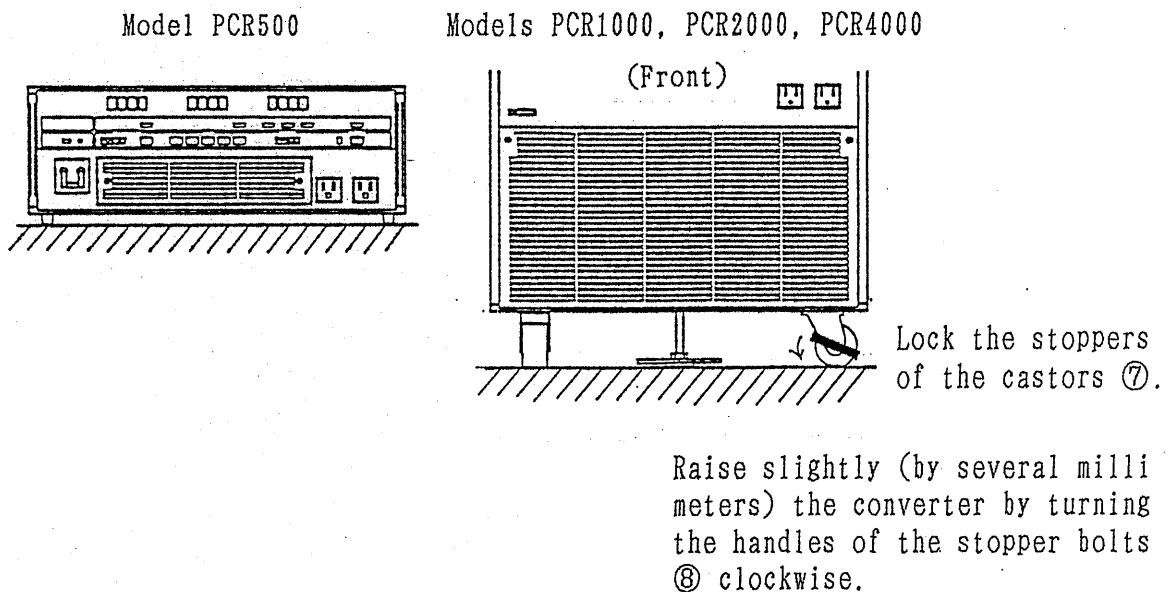

Figure 3-2-1
- (b) Regarding Model PCR1000, PCR2000 or PCR4000, be sure to let the castors ⑦ facing the floor, lock the stoppers of the castors ⑦ (Model PCR1000 has no stoppers) and let the converter stably settle on the floor with the stopper bolts ⑧. (See Figure 3-2-1.)